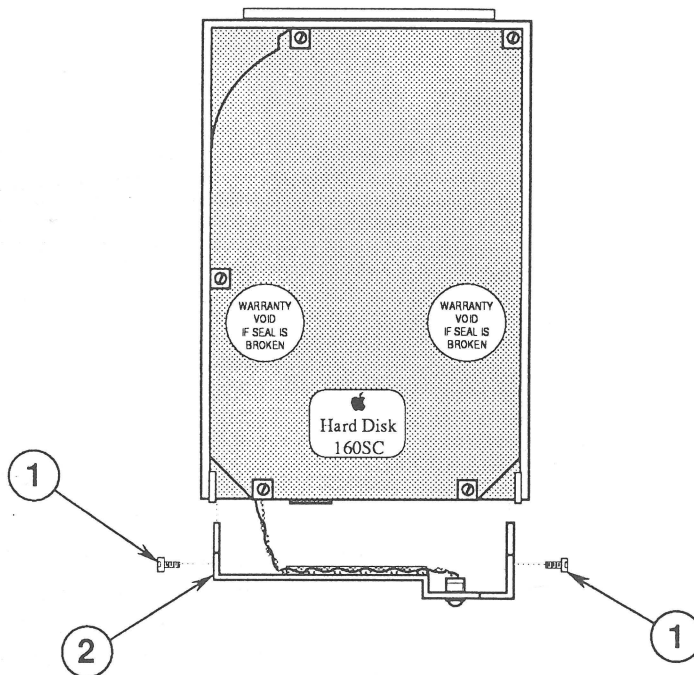

FIGURE 12
3. **If you are repairing a Hard Disk 160SC**, remove four screws (Figure 12, #1) and pull the end bracket with LED cable (Figure 12, #2) off the hard disk assembly. Use the small torx screwdriver.